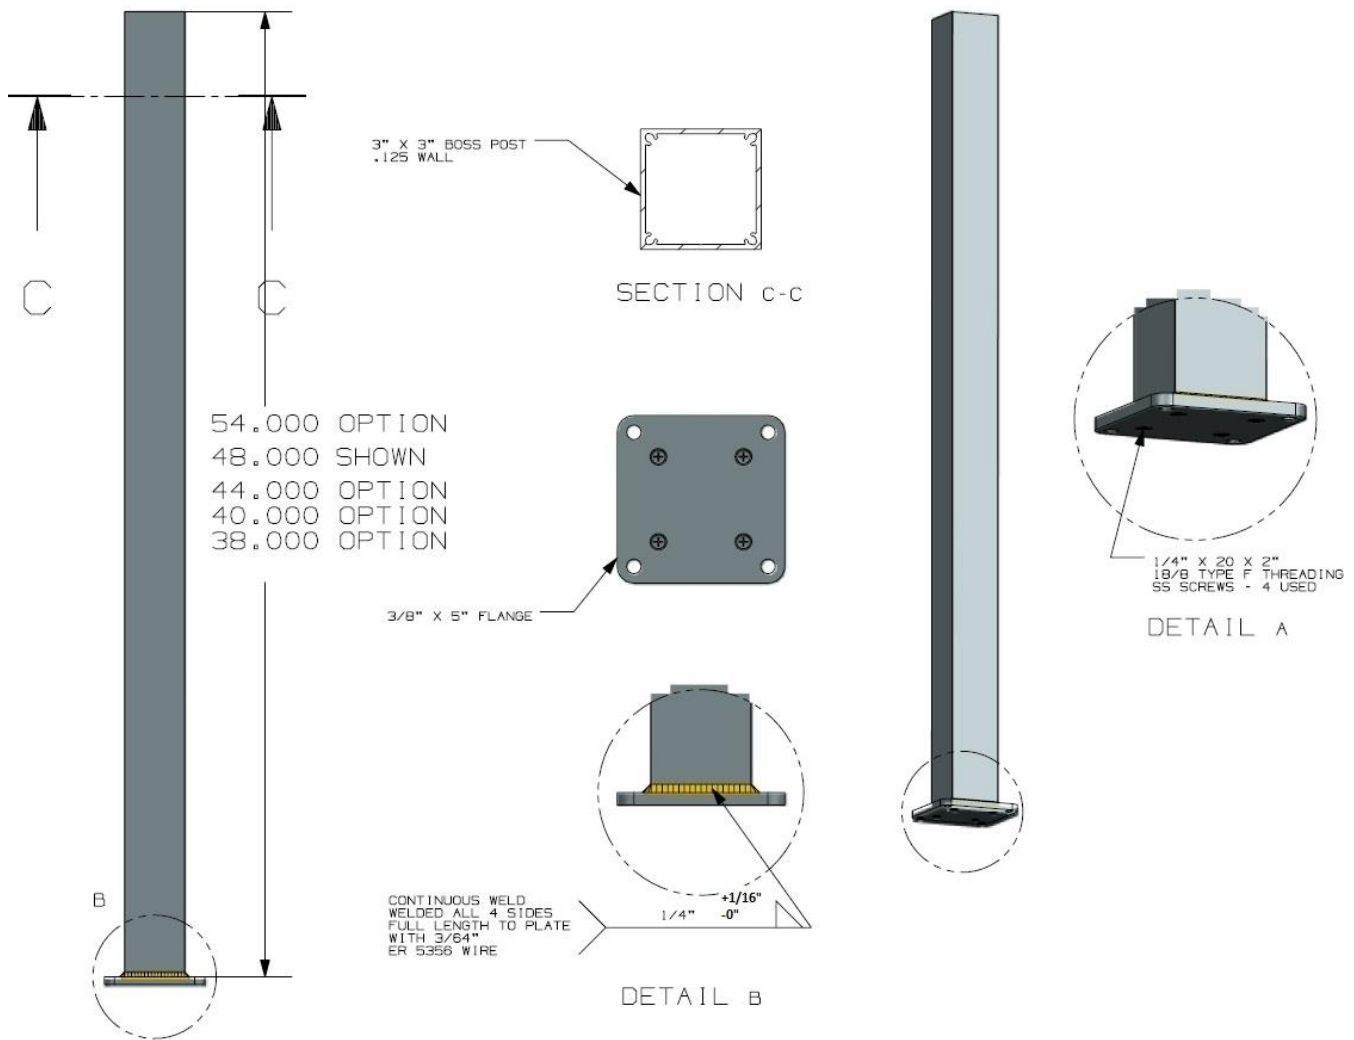

Figure 19 – 3 Inch Residential Post
3.8.2. The 3 inch square by 0.125 inch wall residential post is extruded 6005-T5 aluminum tube with internal screw slots. See Figure 19.